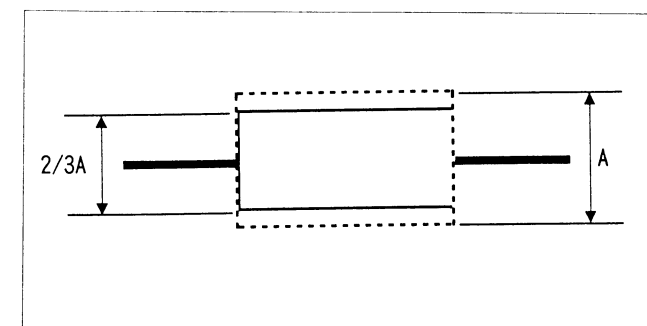

Fig. 1-11
- 2) Make the RF waveform envelope 2/3 by turning ATF Balance Volume (VR403). (Fig. 1-11)